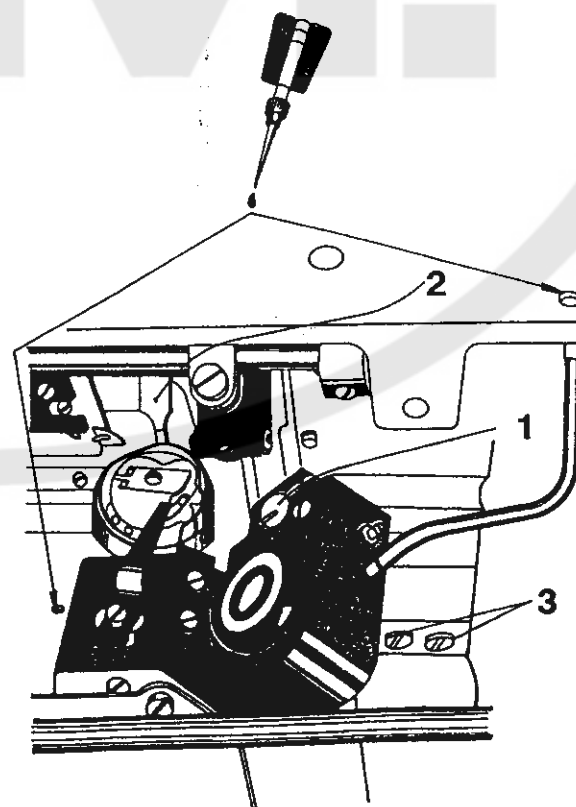

Figure 2
**6. To adjust the hook lubrication (Fig. 2)**
**10. To adjust the hook holder (Fig. 2)**